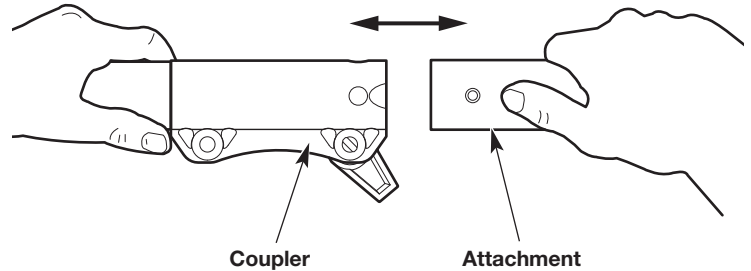
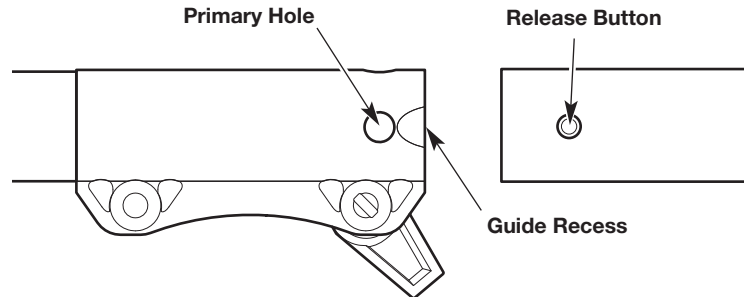

Fig. 5
Fig. 6
4. Align the release button with the guide recess (Fig. 6).
5. Push the attachment straight into the coupler (Fig. 5) until the release button snaps firmly into the primary hole (Fig.6).
3. Press and hold the release button (Fig. 6).
4. Pull the attachment straight out of the coupler (Fig. 5).